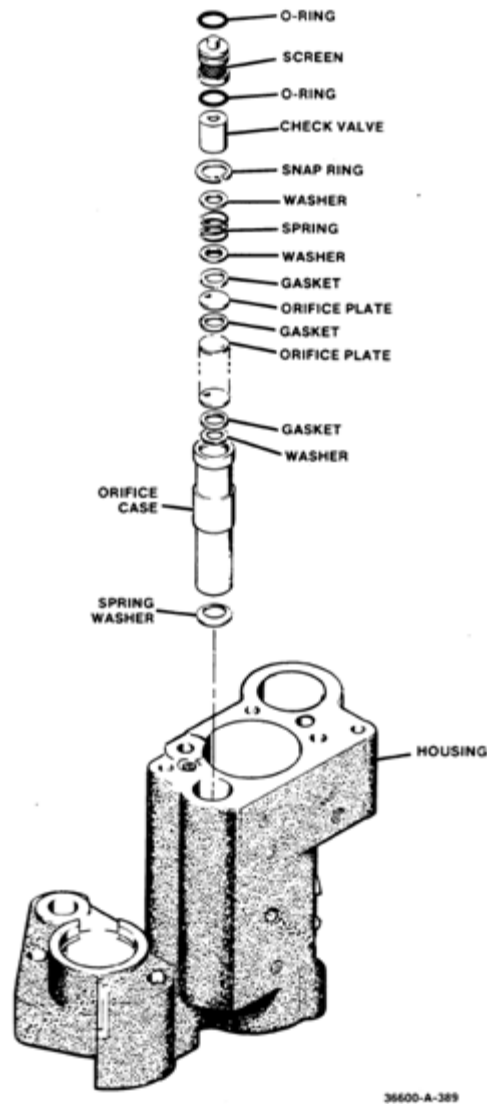

Figure 5-62 Fuel Limiter Orifice
39. Limiter assembly (Figures 5-62, 5-63, 5-64). This applies to governors with designations 8559-910, 8573-463, and 8573-494.